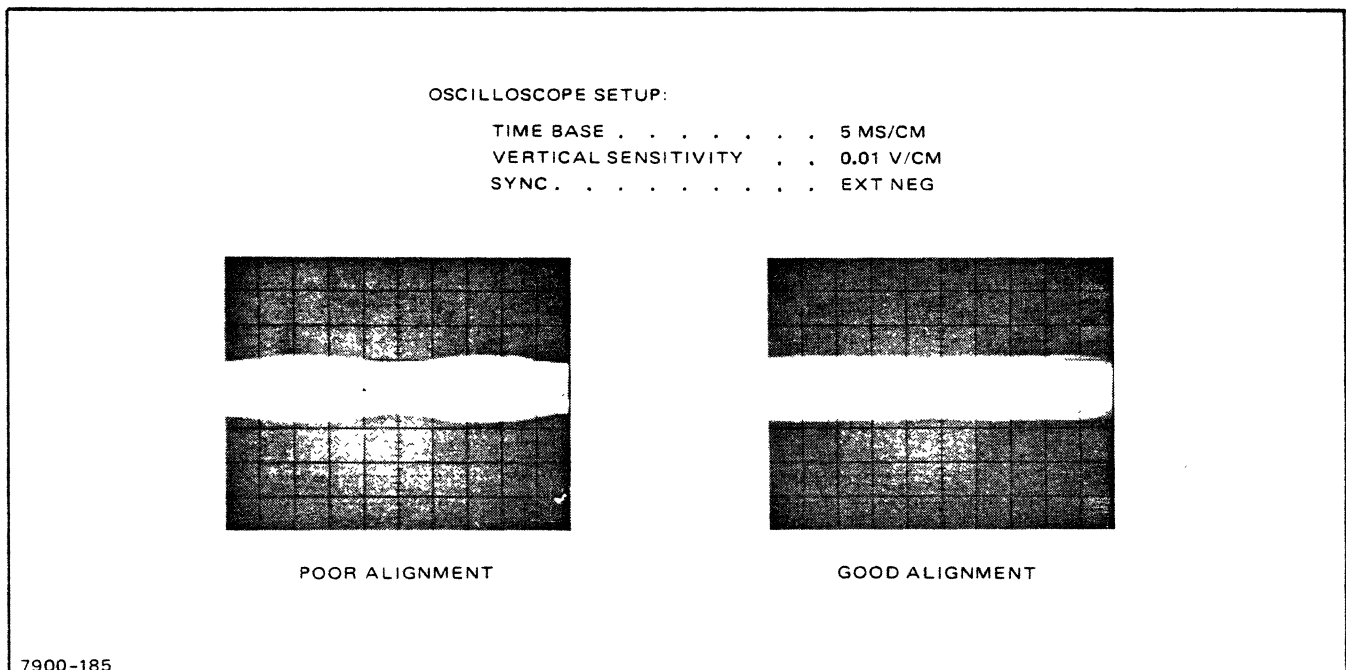

Figure 3. Head Alignment Waveforms
- K. Using the head adjusting tool, position the head to minimize amplitude modulation of the output signal. (See waveforms in Figure 3.)